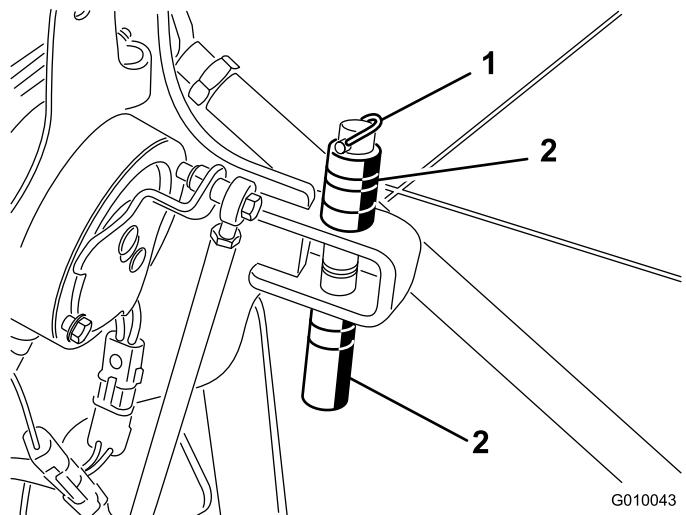

Figure 29
1. Remove the lynch pin retaining the spacers and depth pins (Figure 29).